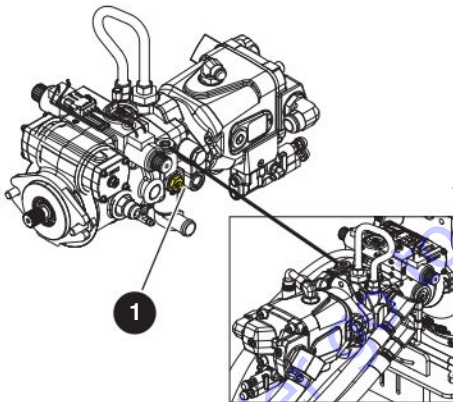

Figure 29 Drive bypass valve
4. Push in black brake valve plunger (item 3 - Figure 29).